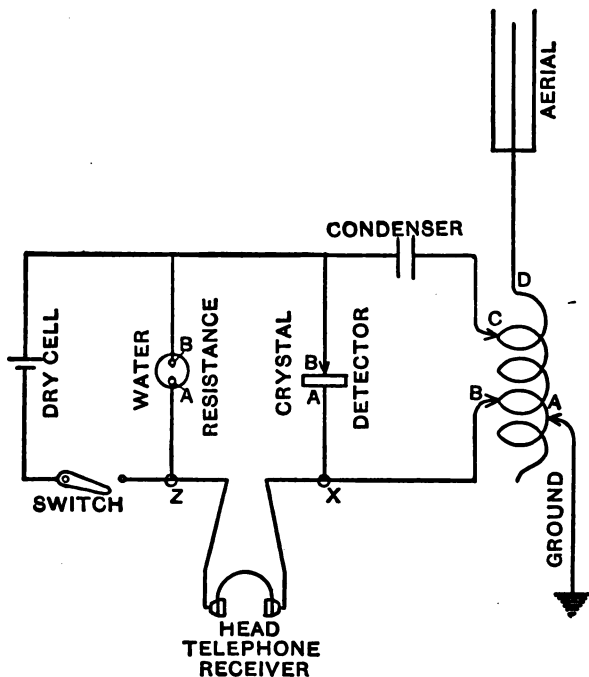
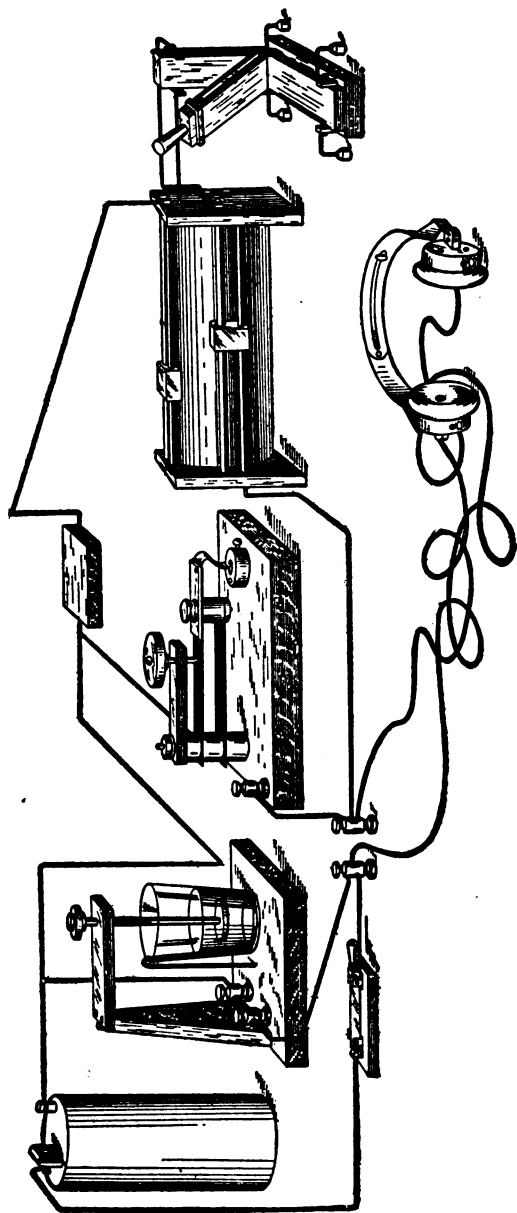

FIG. 128.—WIRING DIAGRAM OF RECEPTOR WITH POTENTIOMETER.
FIG. 129.—RECEPTOR COMPLETE AND READY FOR RECEIVING.
But if the potentiometer is to be used then connect the binding post B of this device with the binding post B of the crystal detector as shown in the wiring diagram, Fig. 128. Connect the binding post marked A of the potentiometer with the binding post Z and also with one end of the switch. Connect
**Adjusting the Receptor.**—When you adjust the receptor for the first time after wiring it up it is better not to use the potentiometer and dry cell shunted around the detector as shown in Fig. 128, but to connect the telephone receiver directly to the binding posts of the detector as shown in Fig. 127. The receptor complete and ready for use is shown in Fig. 129.
**To Adjust the Receptor with the Potentiometer.**—After you have learned to adjust the detector and tuning coil so that you can get good results, connect in the potentiometer and dry cell as shown in the wiring diagram, Fig. 128.